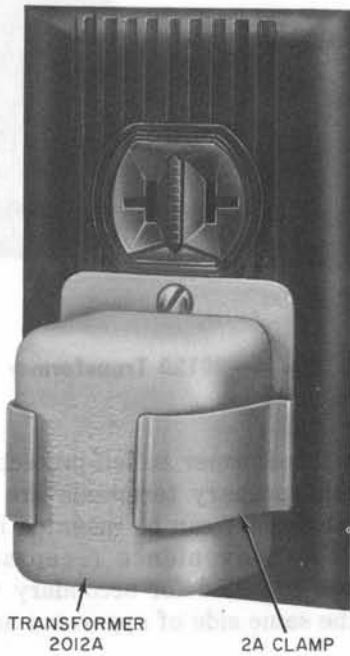

Fig. 5—2A Clamp
4.05 A 2A clamp may be used to secure the 2012-type transformer to a standard electrical service outlet (Fig. 5) in those locations where the transformer is subject to being accidentally dislodged from the receptacle.
10.02 The transformer is self-protecting and is provided with primary terminals in the form of parallel blades which serve as the mounting device. The furnished clamp must be used to hold the transformer securely in the receptable. The KS-20426L3 transformer mounts in the same manner as the 2012A transformer as shown in (Fig. 5).